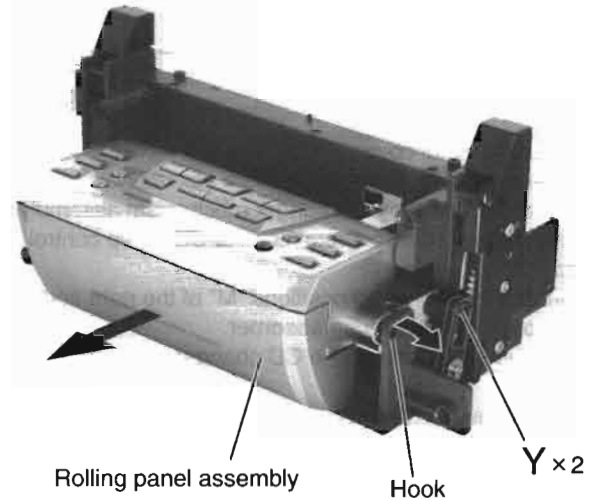

Fig.27
■ **Removing the rolling Panel Assembly** (See Fig.27)